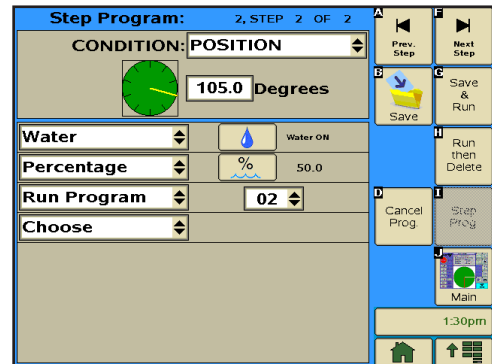

Figure 156-1
8. Program the position condition for this step. Refer to Figure 156-1.